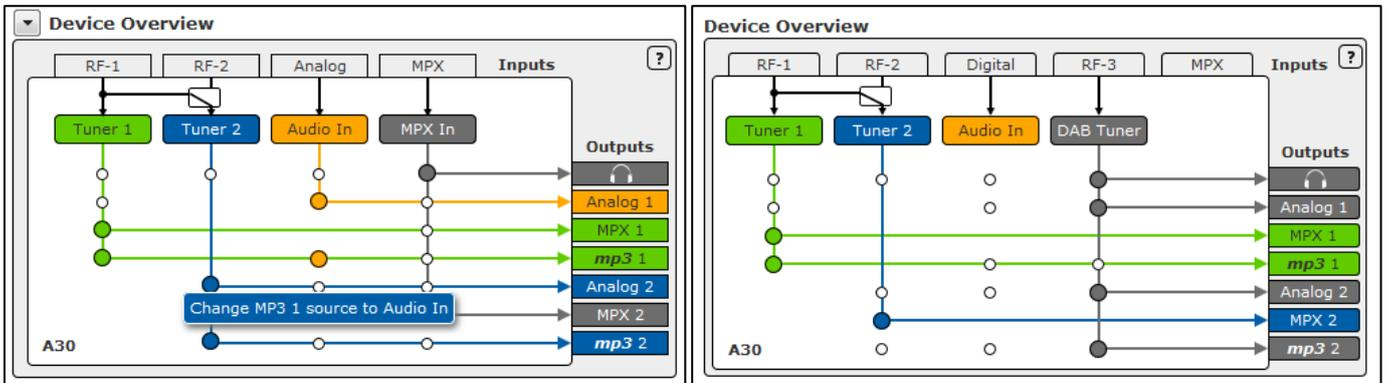
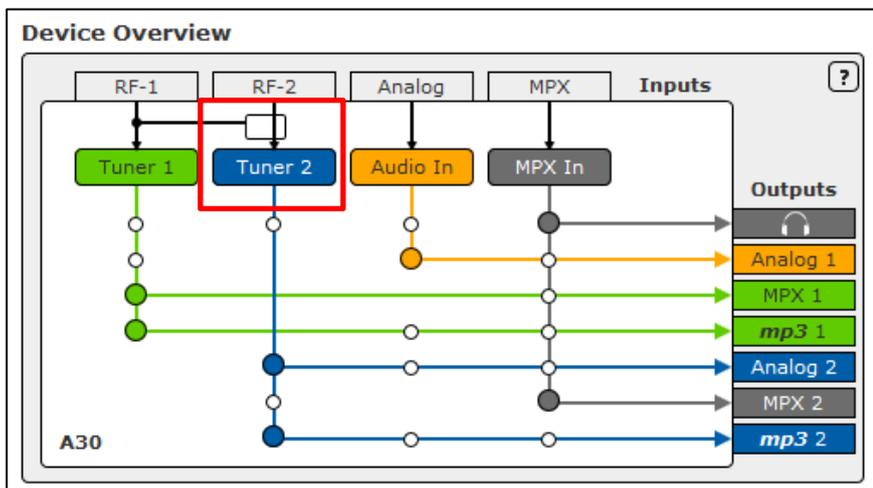

Fig. 5: Source switch for the outputs (MPX and DAB Options)
Fig. 13: Input Switch over the "Device Overview" block
Note: You can make the same settings for directly over the block diagram “Device Overview” (see Fig. 13 on page 43). Just assign a source input to each available output by clicking the connecting nodes in the switch diagram in the “Device Overview” block (Fig. 13 on page 43, Fig. 24 on page 54 and Fig. 5):
4. To assign the input to Tuner 2, select the radio button RF-1 or RF-2 in the "Source" field or just click the connecting block in the switch diagram in the "Device Overview" block (see Fig. 13).